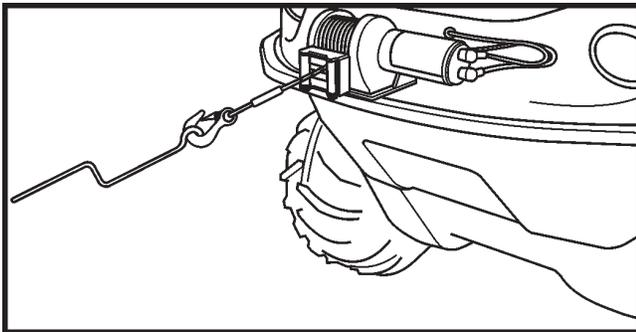

Figure 11-21. Using the Handsaver Bar.
7. Keep clear of winch wire rope and hook when operating winch. Never put your fingers through the hook when reeling in the last few feet of line. If your finger should become trapped in the hook, you could lose your finger. Use the **HANSAVER BAR** (Figure 11-21) to guide the hook within the last few feet. Never guide a wire rope onto the drum with your hand.